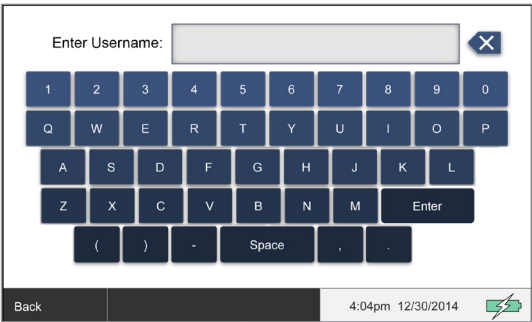

Figure 27 Enter User Name
5. Enter the Username (see Figure 27)